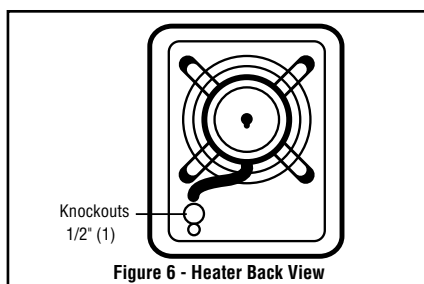

Figure 6 - Heater Back View
3. Two knockouts are provided on the back of the heater for wire entry. See Figure 6 for location of knockouts.